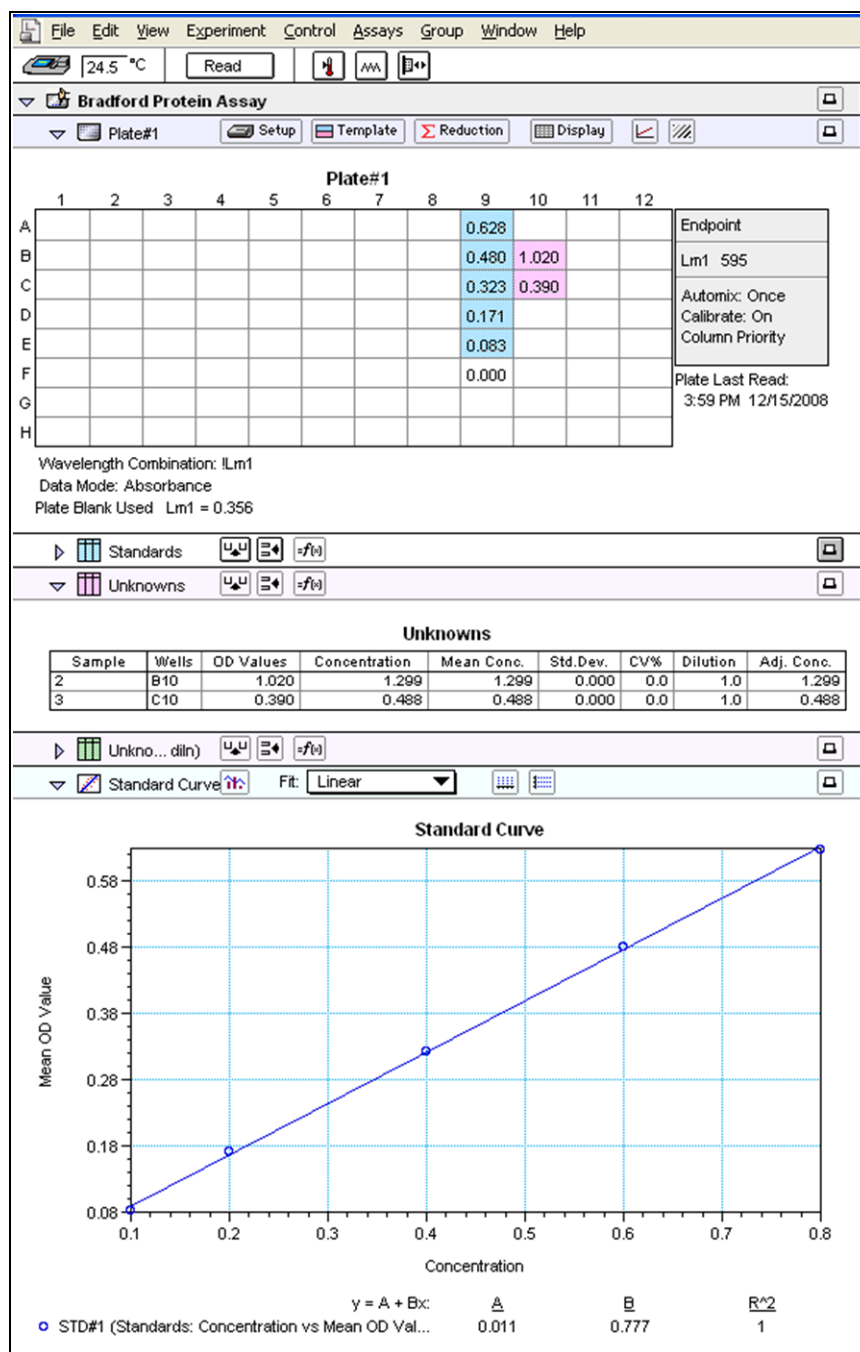

Figure 7. Print out from a Bradford microplate-based protein assay.
- 7) A typical Bradford microtiter assay result from a commercial plate reader is illustrated below in Figure 7.